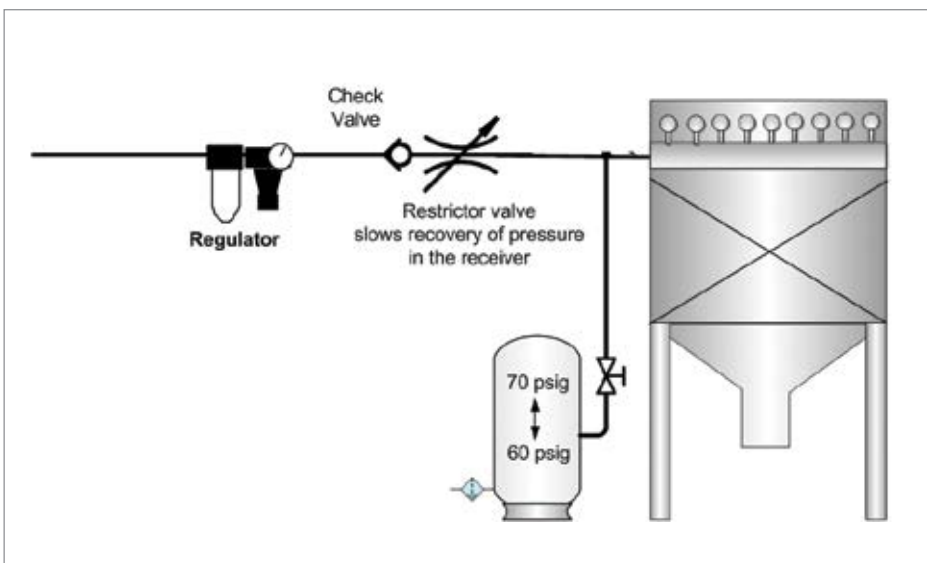

Figure 5: Peak pulses are reduced and pulses strengthened by added storage to baghouses. (Source: Compressed Air Challenge)
- A small receiver tank of 30 gallons was installed on one problematic baghouse to reduce peak flows demanded by the unit and to give the pulses more “pop” to clean the bags better. Figure 5 shows a typical recommended method of doing this. This retrofit will be applied to all plant baghouses to reduce peak flows seen by a new larger pressure flow controller.